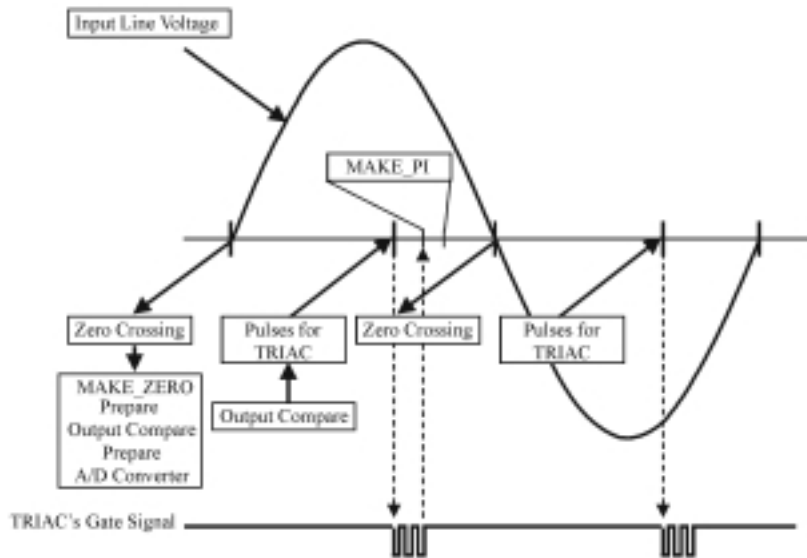

Figure 9. Timing of SW Subroutines
- The output compare interrupt service routine (OCISR) generates the pulses for the triac (refer to Figure 9).